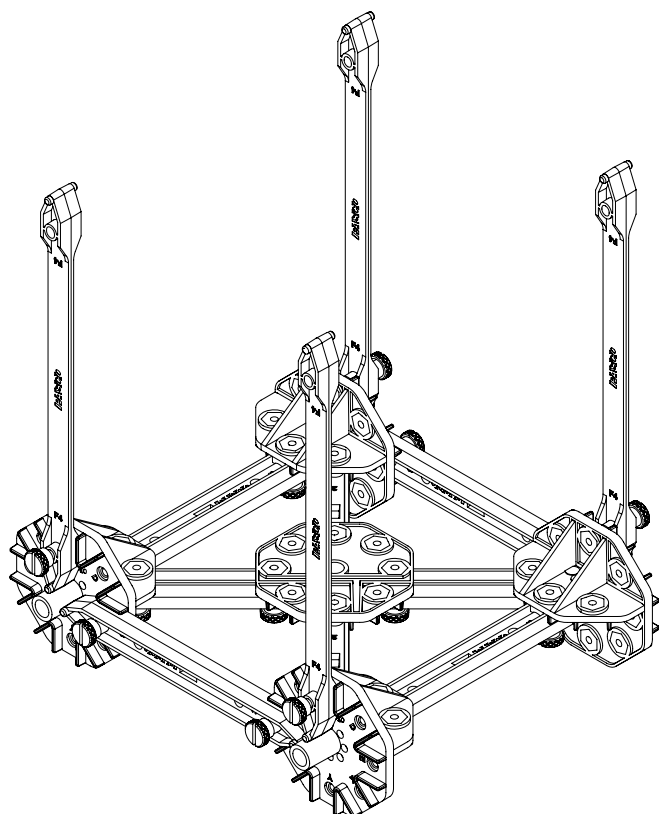

Figure 2: Completed ground floor structure with Flat F4 Beams.
- Align a Flat F4 I-beam and a truss set screw with the top vertical slot on a full round connector. Attach the beam using the truss set screw. (See Figure 2.)
The completed ground floor structure should resemble what is shown in Figure 2.